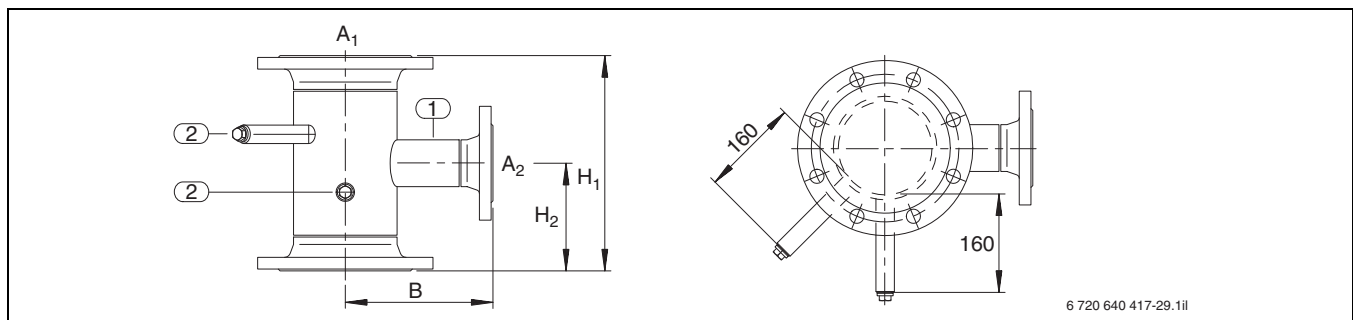

Fig. 50 Intermediate return piece for UNIMAT UT-L boilers (dimensions in mm)
- The intermediate return piece (→ Fig. 50, page 72) is integrated ready for operation and can therefore not be used in addition.